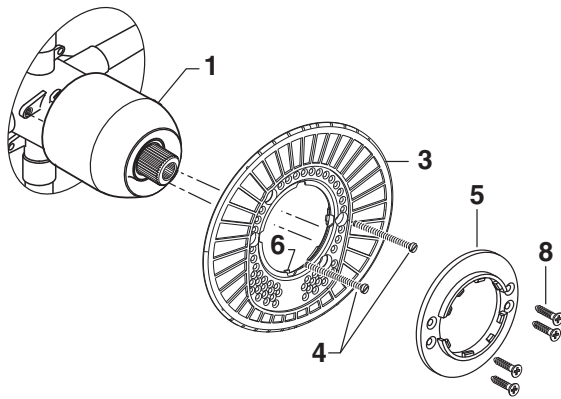

Figure 2.
- **Figure 2.** Make sure O-RING (6) is secure within ESCUTCHEON HOLDER (3). Push ESCUTCHEON HOLDER (3) onto CAP (1) and attach with LONG SCREWS (4). Mount ESCUTCHEON SUPPORT (5) to ESCUTCHEON HOLDER (3) with 4 SHORT SCREWS (8).